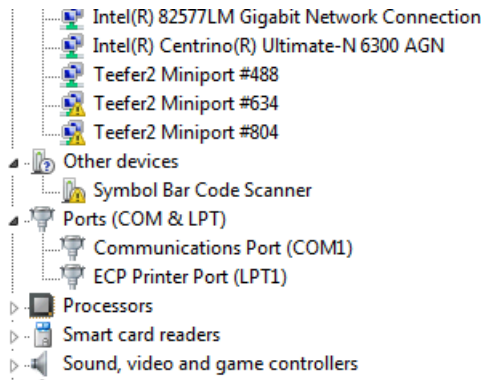

Figure 11: Symbol Bar Code Scanner in Other devices
- b. In the **Other devices** folder, right-click **Symbol Bar Code Scanner**, and then select **Update Driver Software** (see Figure 11).